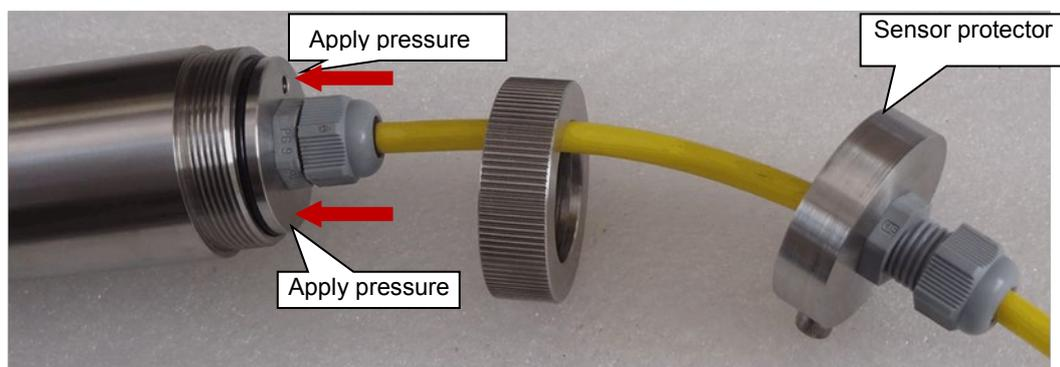

Figure 8-19: Connecting sensor end assembly to datalogger
8.7.25 Push the cable gland holder in place by applying sideways pressure as shown in figure 8-19.